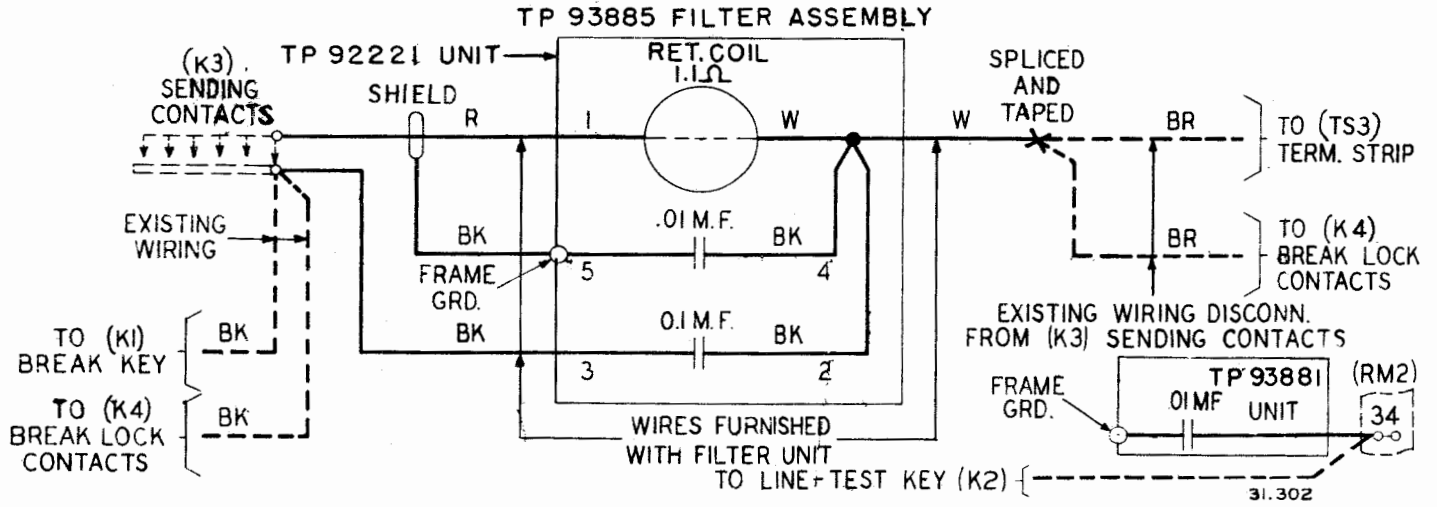

Figure 1
2.09 Connect the black and red wires from the filter unit to the left and right terminals of the sending contacts respectively as shown in Figure 1.
2.11 Check the connections of the filter with Figure 1.